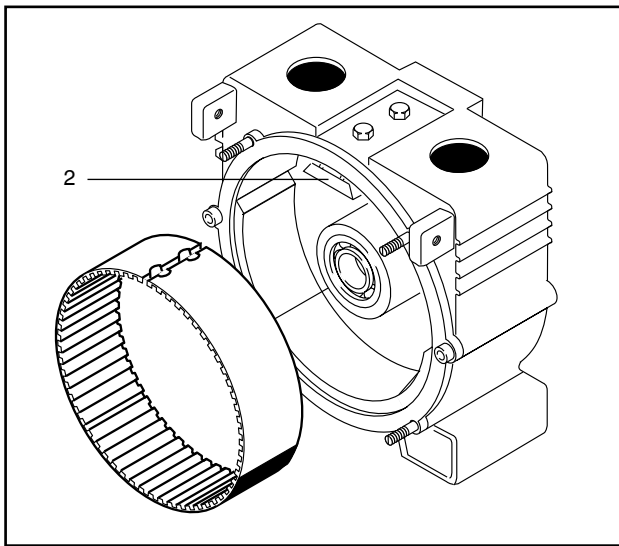

Fig. 14
2. Insert the new separating part into the holder with the gearing towards the inside (Fig. 14).